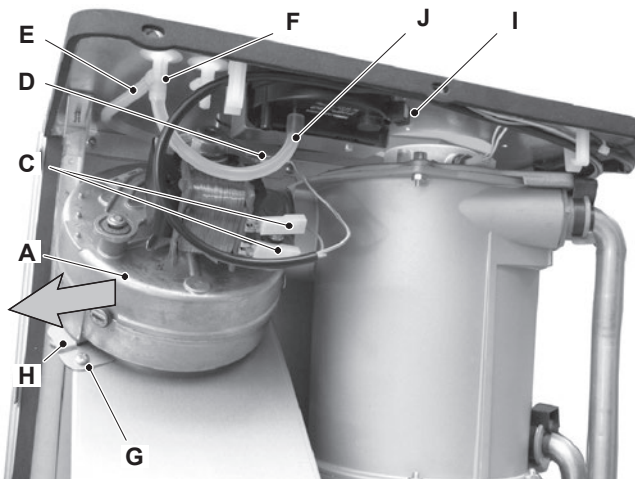

Figure 17.4
- 2 Disconnect the connectors C and the earth connection D (Figure 17.4).
- 3 Disconnect the pipe E by the pressure test point F (Figure 17.4).
- 4 Unscrew the screw G and remove the bracket H (Figure 17.4).
- 5 Remove the Fan by sliding it towards left (see the arrow in Figure 17.4).